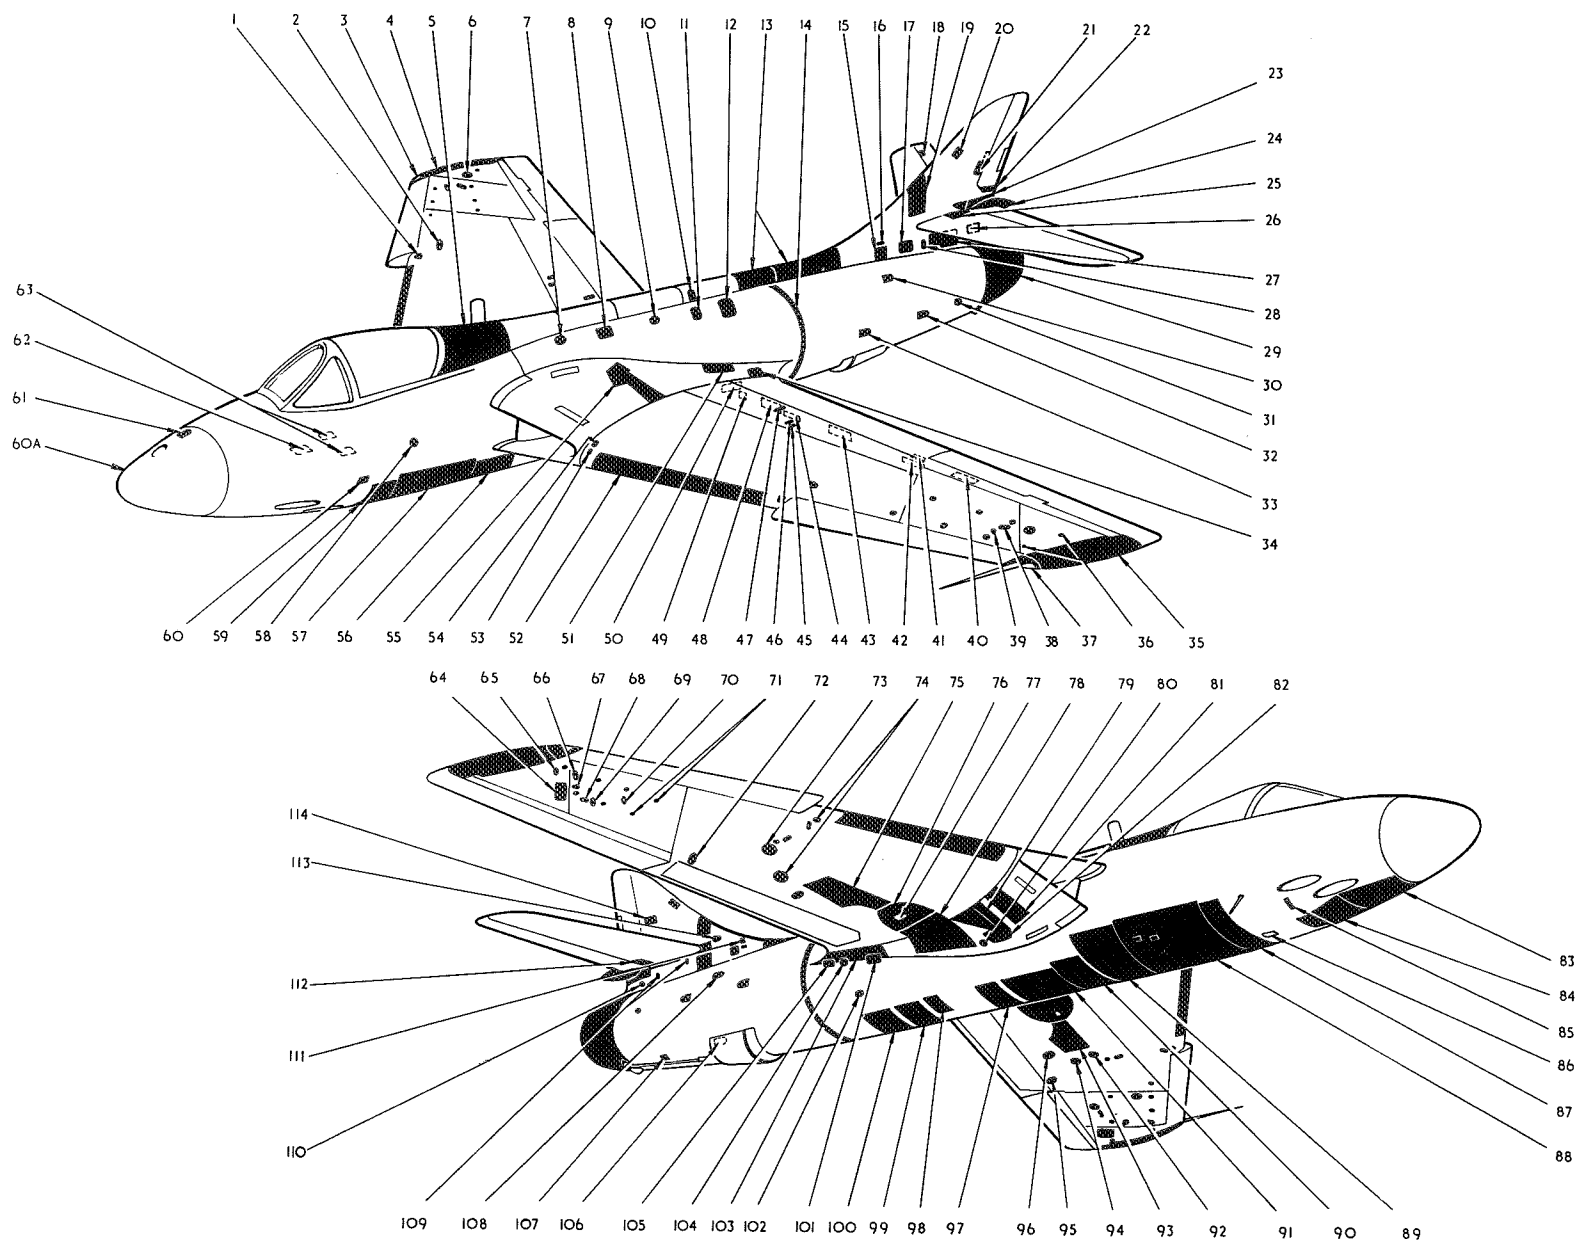

Fig.3 Access panels
6. The position of the access doors and removable panels are shown in fig. 3, the components to which they give access being given in the key. When handling the doors and panels, care should be taken to ensure that they are not damaged or distorted in any way. When re-fitting them, ensure that they fit flush with the surrounding surface and that they are secure and effectively locked.
## KEY TO FIG.3 (ACCESS PANELS)